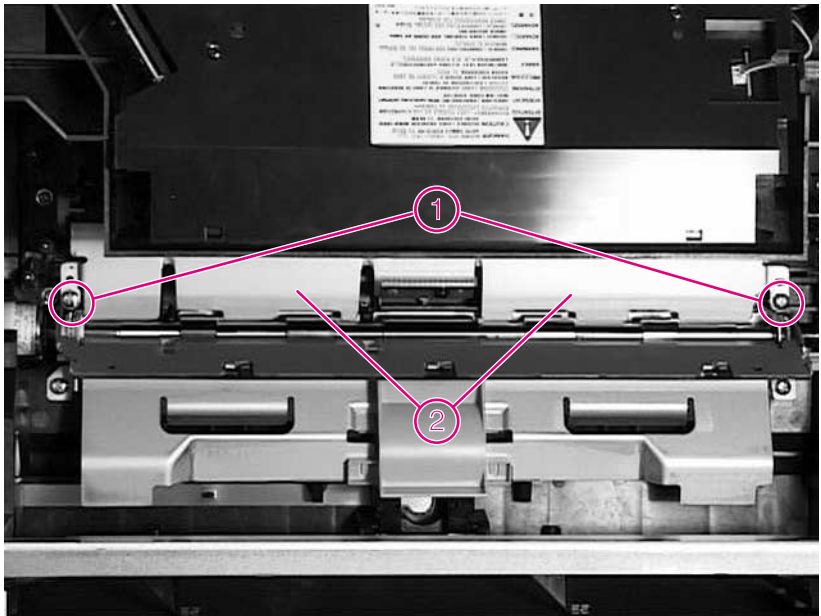

Figure 2 Removing the metal plate
- 1 Face the front of the printer, open the top cover, and lift the small green handle on the right side of the registration assembly, exposing the metal plate that rests against the transfer roller (Figure 2, item 2).
- 2 While holding the green handle, remove the two self-tapping screws (item 1), and then carefully lift out the transfer guide.